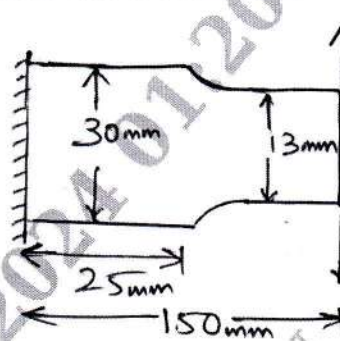

Fig. Q4 (b)
- b. A Cantilever beam made up of cold drawn carbon steel of circular cross section is as shown in Fig. Q4 (b). It is subjected to a load which varies from $-F$ to $3F$. Determine the load that the member can withstand for an infinite life. Take FoS, Factor of Safety 2, stress concentration factor K_t as 1.42, notch sensitivity as 0.9, yield stress 470 N/mm^2 endurance stress as 275 N/mm^2 , size factor as 0.85 and surface factor as 0.89. (15 Marks)